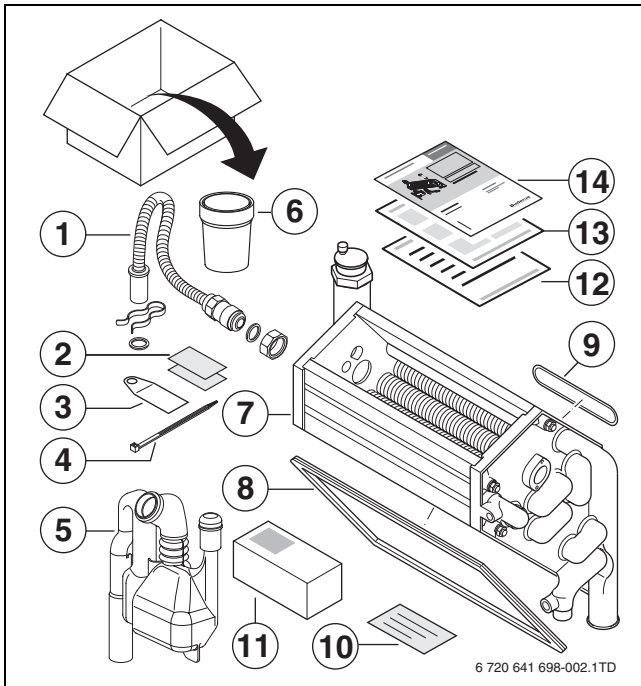
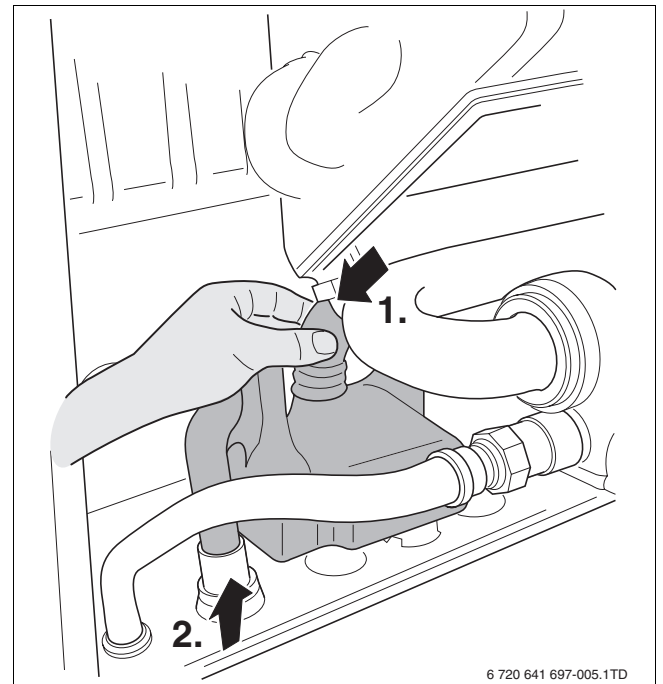

fig. 1 Service kit with heat exchanger
fig. 6 Removing the condensate trap
- ▶ Remove the gas supply pipe according to figures 6 to 11 of the gas supply pipe instructions (→ fig. 1, [13]).
- ▶ Fill out the gas label (→ fig. 1, [2]).
- ▶ Place the gas label on the tag (→ fig. 1, [3]) and connect it with the tie wrap (→ fig. 1, [4]) to the old gas supply pipe.
- ▶ Fill the bottle (→ fig. 1, [6]) provided with the service kit with some water of the heating system. Make sure there is no air left in the bottle.
- ▶ Fill out the water sample label (→ fig. 1, [2]) and place the label on the bottle.